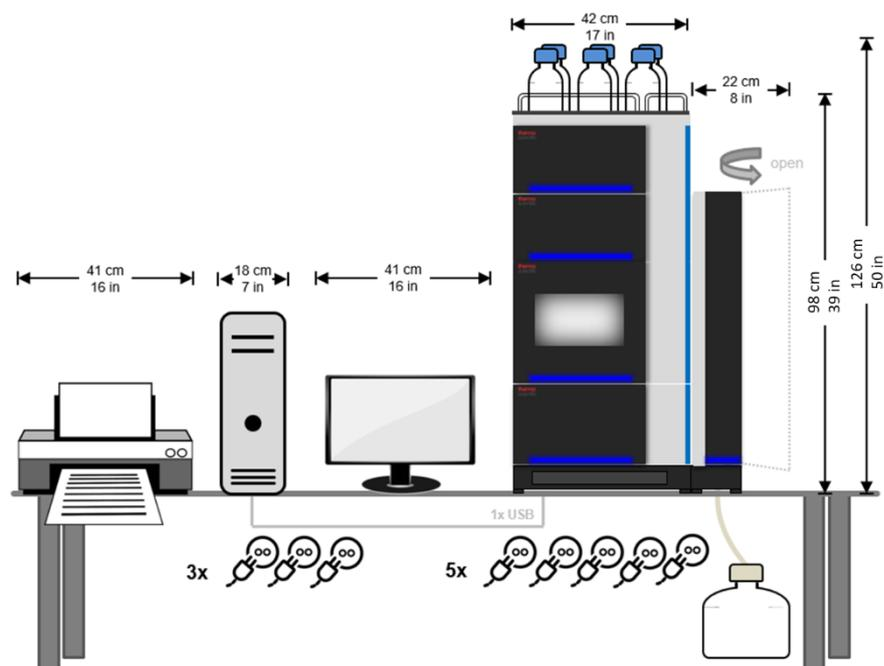

Figure 3: Recommended layout for a stand-alone Vanquish (U)HPLC System with two optical detectors and data system
Figure 3 shows the recommended layout for a stand-alone Vanquish Duo (U)HPLC System with two Vanquish optical detectors, column compartment, autosampler, pump, and a system base with solvent rack. To add a Charger module, an additional width of 44 cm (18 in) is required. Allow at least 160 cm (63 in) for the installation of the shown setup, including the data system and printer.